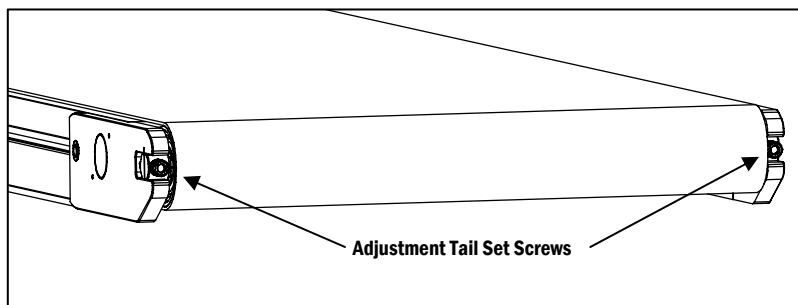

Figure 2
b. Position the conveyor for operation, taking care to note that when other equipment is nearby, access is needed for the tail pulley's adjustment set screws (**Figure 2**). This is important when tensioning or tracking the belt from the tail pulley end.
② Install Stands, Mounts, Drives and Mounting Packages
③ Verify Belt Tracking